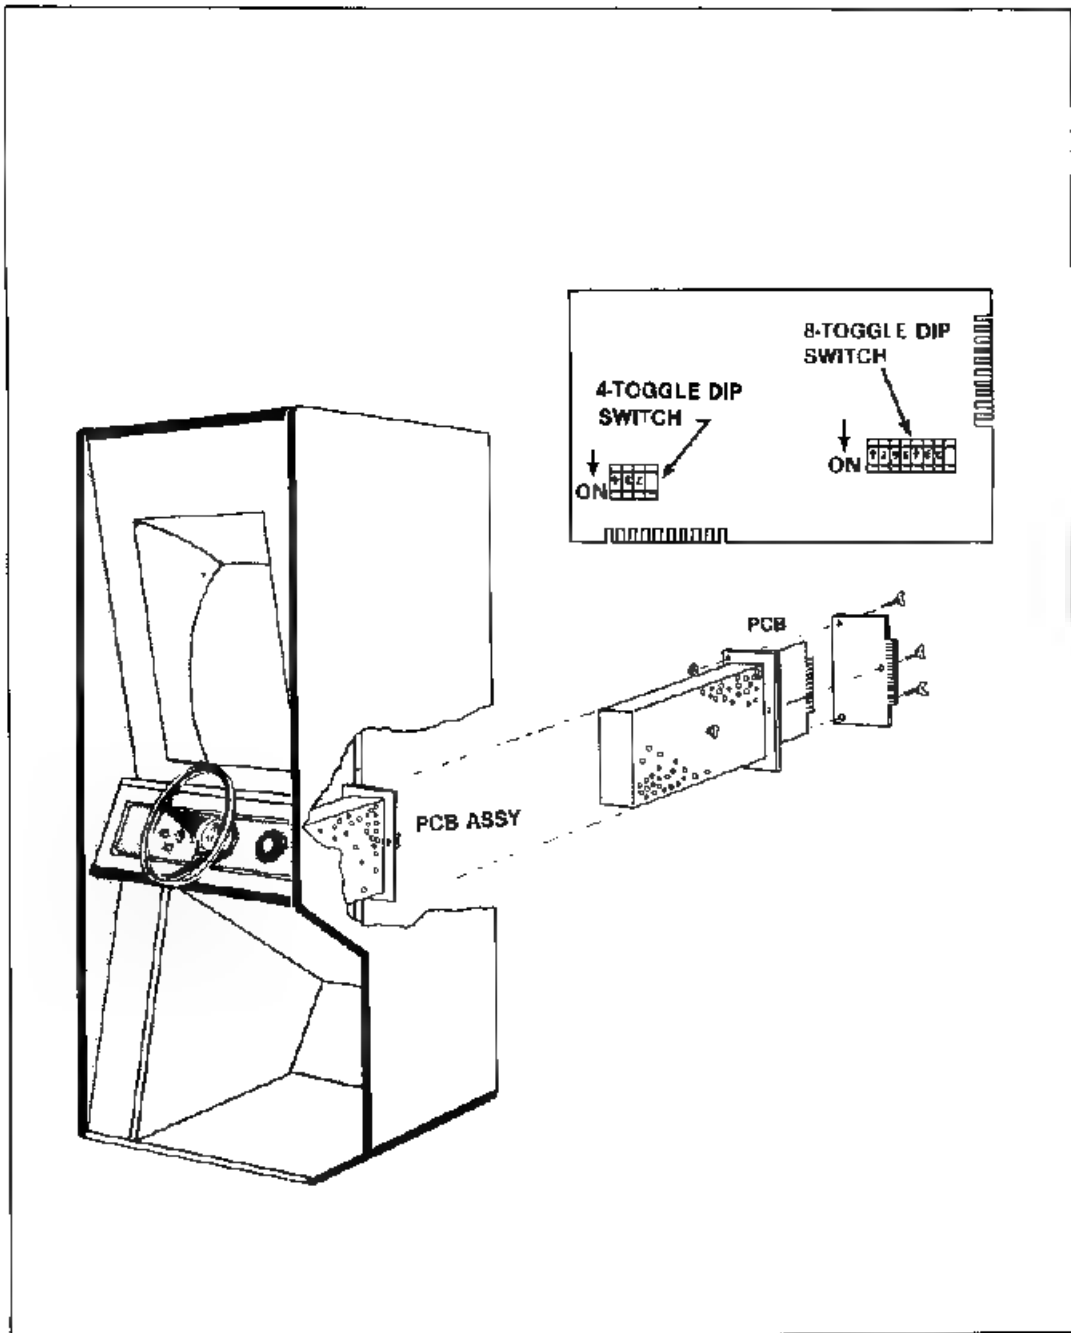

Figure 1-5 Option DIP Switches on Game PCB
2. Locate the radio frequency (RF) shield assembly immediately inside the cabinet on the right. See Figure 1-5. On one end of the box is a printed circuit board (PCB) with an edge connector coming from the edge of the board. (The RF shield assembly is an aluminum box with small holes.)